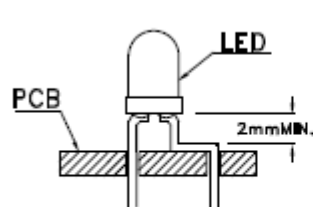
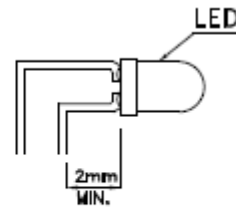

Fig. 5
Fig. 6
1. Maintain a minimum of 2mm clearance between the base of the LED Lens and the first lead bend (Fig.5 and Fig.6)